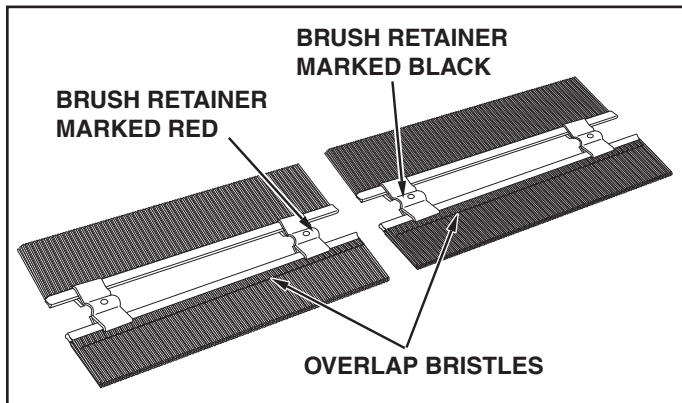

FIGURE 1
- (2) 7/16" Wrenches
STEP 2: (SEE FIGURE 1)